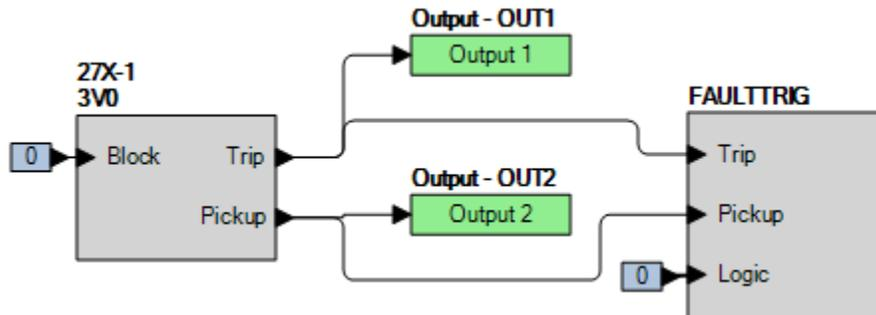

Figure 42-1. BESTlogicPlus Settings (3V0 Mode)
Step 2: Use BESTCOMSPi.us to configure the BESTlogicPlus programmable logic shown in Figure 42-1.
Step 4: Prepare to monitor the 27X-1 function operation. Operation can be verified by monitoring OUT2 (see Figure 42-1).